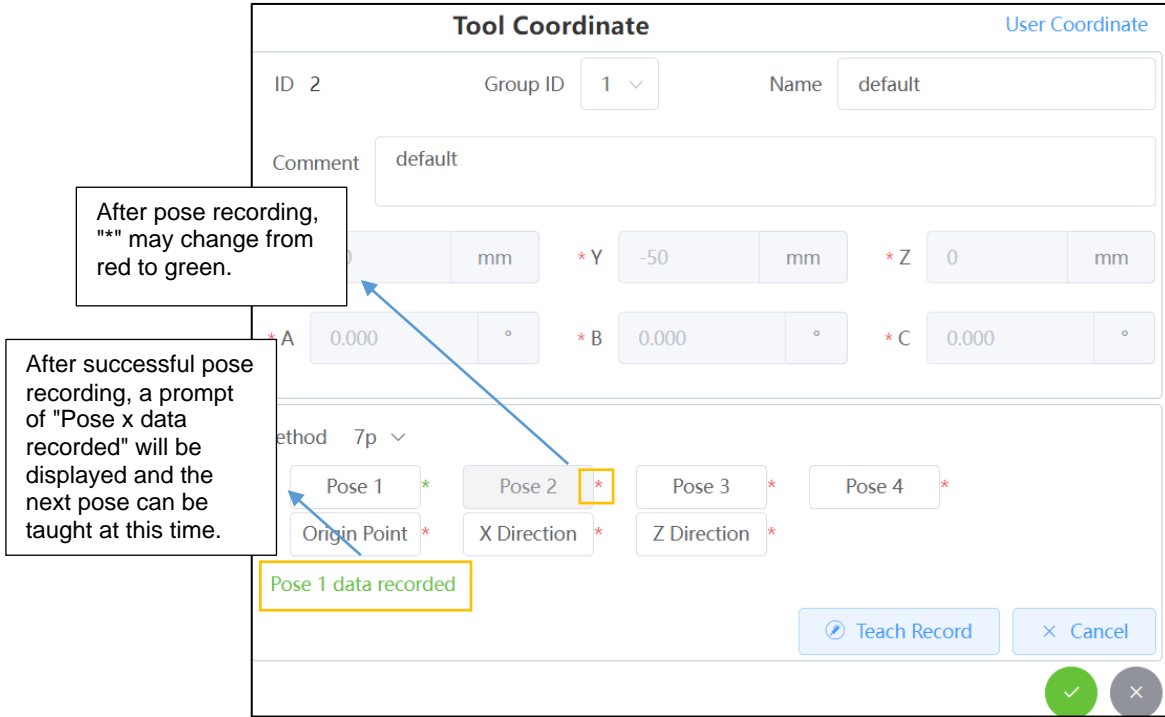

Fig. 2.16 Tool Coordinate System Setting Interface 4
3. Select the pose to be taught. After teaching of that pose, click "Teach Record", and the interface is shown in Fig. 2.16.